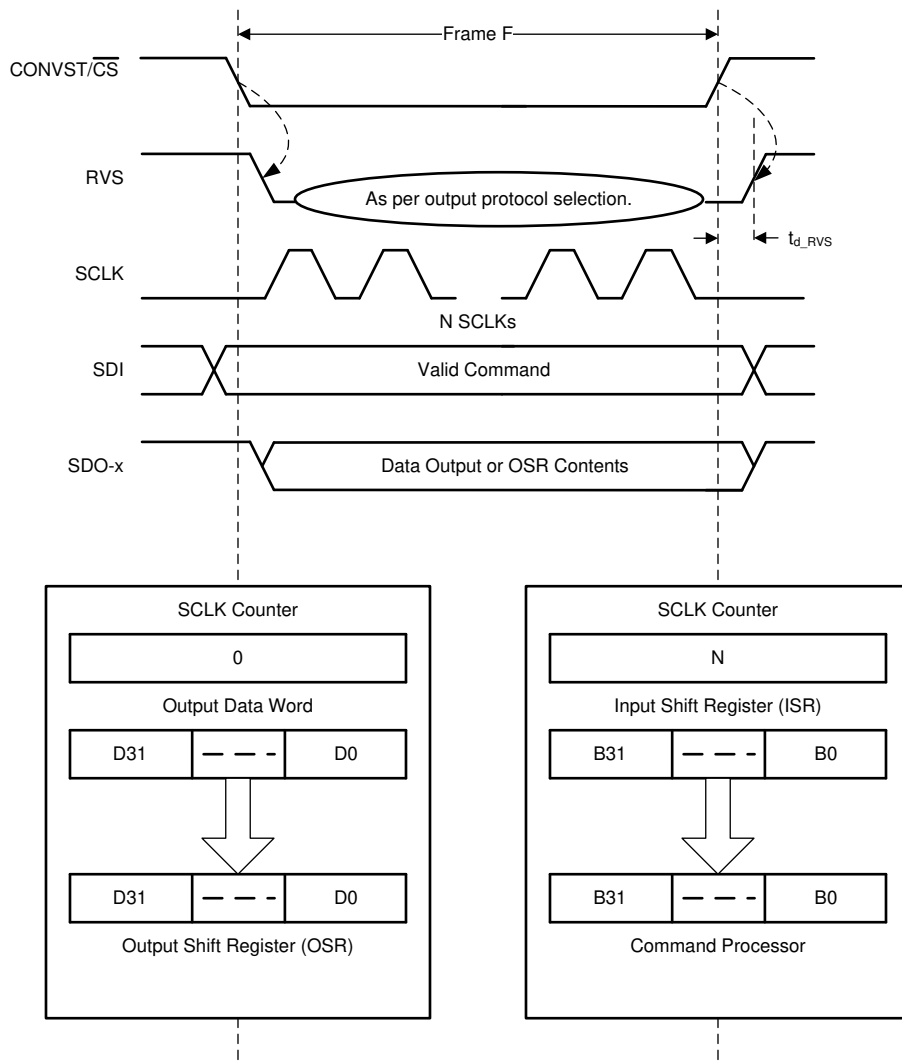

图 7-29. Data Transfer Frame
A data transfer frame between the device and the host controller begins at the falling edge of the CONVST/ $\overline{\text{CS}}$ pin and ends when the device starts conversion at the subsequent rising edge. The host controller can initiate a data transfer frame by bringing the CONVST/ $\overline{\text{CS}}$ signal low (as shown in 图 7-29) after the end of the CONV phase, as described in the CONV State section.
- The device takes control of the data bus. As illustrated in Figure 7-29, the contents of the output data word are loaded into the 32-bit output shift register (OSR).
- As illustrated in Figure 7-29, the contents of the input shift register are transferred to the command processor for decoding and further action.